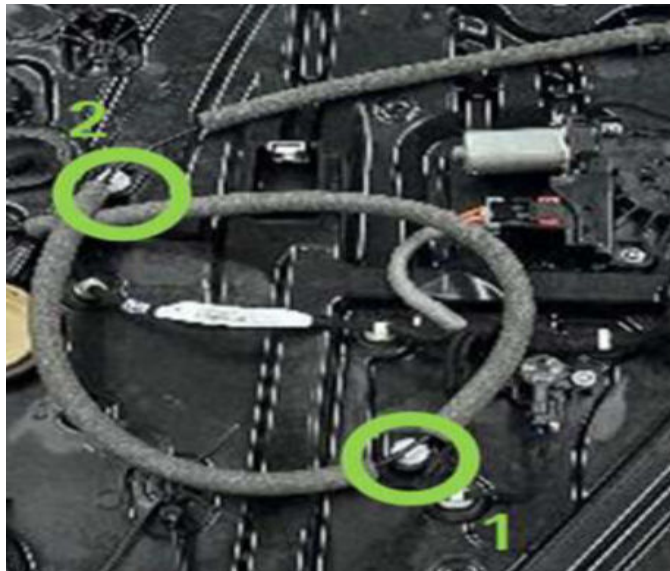

Fig. 36
40. Route the inside handle cable back into the white clips Fig. 36.